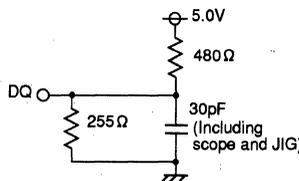

Fig.1 Output load
(1) MEASUREMENT CONDITIONS
- Output loads Fig1, Fig2